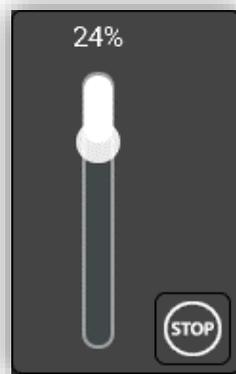

Figure 53. 1-Button Control – Shutter Pop-up
- **Slider** [*disabled* / *enabled*]: if enabled, the central indicator will behave as a button that will open a pop-up, similar to the one mentioned for the one-button shutter control (see Figure 53), which will allow precise control of the shutter position.